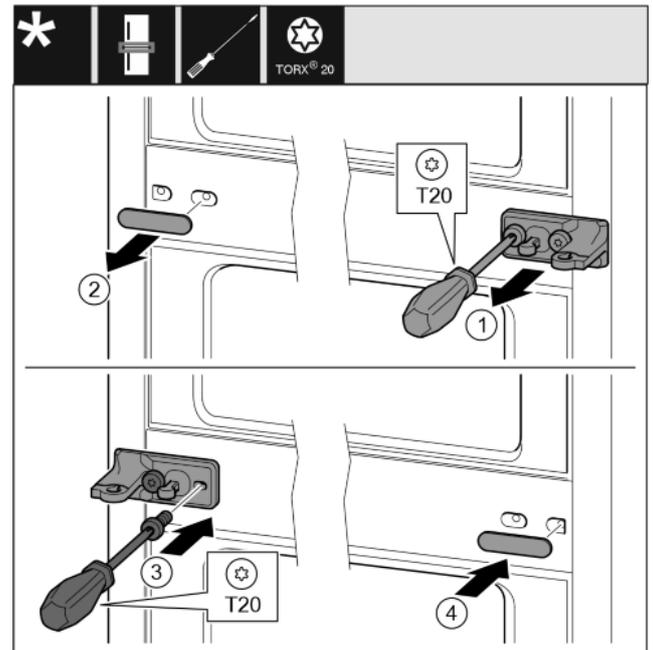

Fig. 26
- ▶ Take off the washer. Fig. 26 (1)
- ▶ Remove the screws with a T20 screwdriver. Fig. 26 (2)
- ▶ Take off the cover carefully. Fig. 26 (3)
- ▶ Screw the bearing bracket and the film rotated 180° firmly onto the other side. Fig. 26 (4)
- ▶ Attach the cover rotated 180° onto the other side. Fig. 26 (5)
- ▶ Push the washer on from the front. Fig. 26 (6)